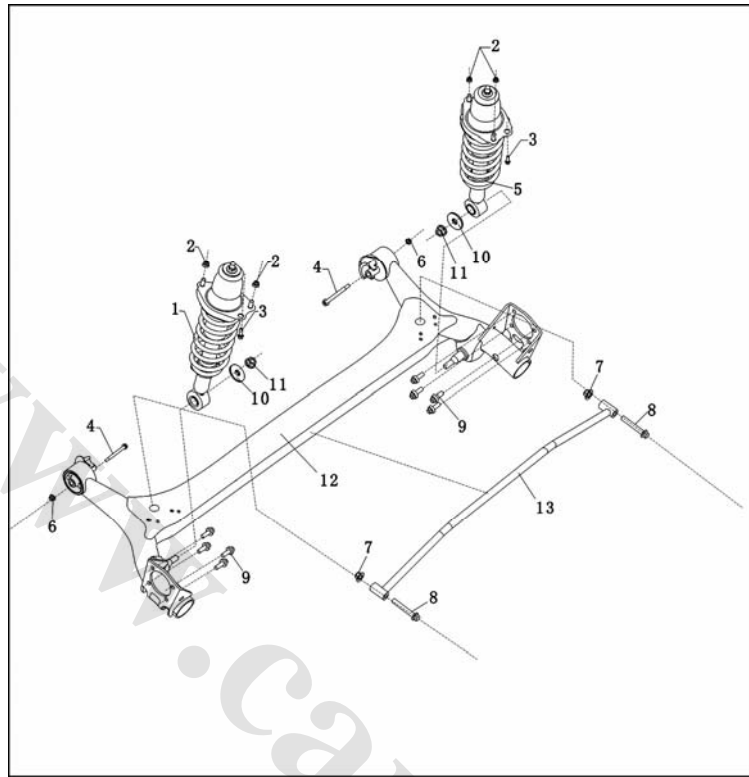

Fig. 2-2
2. Rear suspension. Refer to Fig. 2-2.
The rear axle assembly of LF620 sedan is shown in Fig. 2-2.